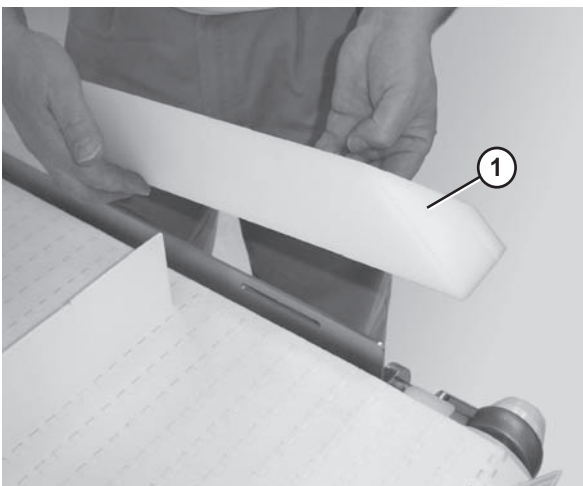

Figure 48
2. Remove the guide (Figure 48, item 1).